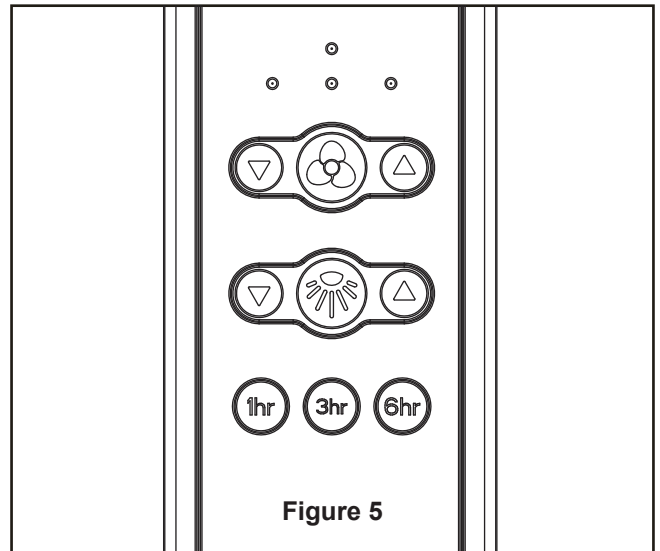

Figure 5
4. After connections have been made, the wires should be spread apart with the grounded conductor and the equipment-grounding conductor on one side of the outlet box and the ungrounded conductor on the other side of the outlet box, then turn leads upward and carefully push leads into the outlet box, with the white and green leads to one side of the box and the black leads to the other side. (Figure 5)
### 5. Remote functions: (Figure 5)